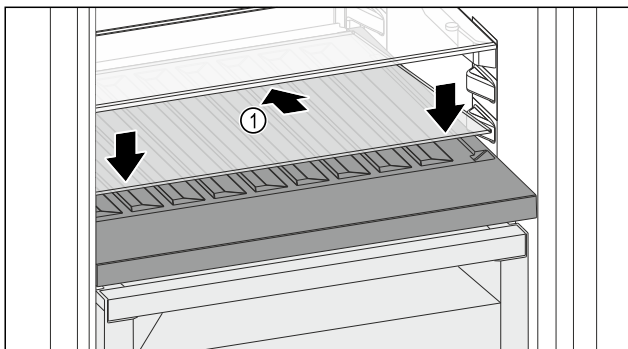

Fig. 159
- Place the glass shelf Fig. 159 (1) at an angle, sloping it downwards and backwards.
- Lower the glass shelf Fig. 159 (1) at the front.